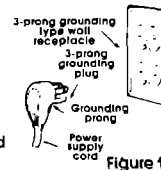
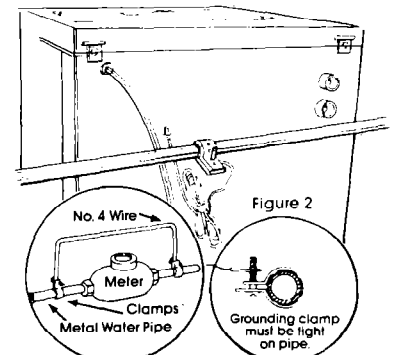

Figure 1
Figure 2
For your personal safety, this appliance must be grounded. This appliance is equipped with a power supply cord having a 3-prong grounding plug. To minimize possible shock hazard, the cord must be plugged into a mating 3-prong grounding type wall receptacle, grounded in accordance with National Electrical Code, ANSI/NFPA 70-1987 and local codes and ordinances. See Figure 1. If a mating wall receptacle is not available, it is the personal responsibility and obligation of the customer to have a properly grounded 3-prong wall receptacle installed by a qualified electrician. For added personal safety, use clamp and green colored copper grounding wire. Connect the grounding wire (#18 minimum) from the external grounding connector on the back of the appliance to a grounded water pipe.* See Figure 2. **Do Not ground to a gas supply pipe.**
*Grounded cold water pipe must have metal continuity to electrical ground and not be interrupted by plastic, rubber or other electrical insulating connectors such as hoses, fittings, washer or gaskets (including water meter or pump). Any electrical insulating connector should be jumped as shown in Figure 2 with a length of No. 4 wire securely clamped to bare metal at both ends.
If this is done, you **must** connect a separate copper grounding wire (No. 18 minimum) to a grounded cold water pipe* by means of a clamp and then to the external grounding connector screw. Do not connect the power cord to outlet until the appliance is permanently grounded. See Figure 2.